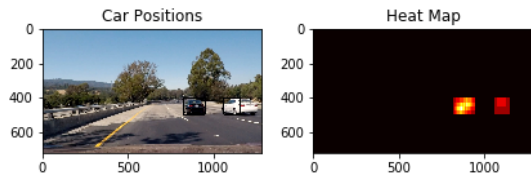

Figure 2.3: heatmap3 with  $c=0.001$
- I tried different `C` (0.01, 0.001) values rather than the default 1. And there are some differences about the results. `C=0.001` achieved the more smooth results. Some comparison can be shown as Fig 2.3, 2.4, 2.5, 2.6, 2.7, 2.8.